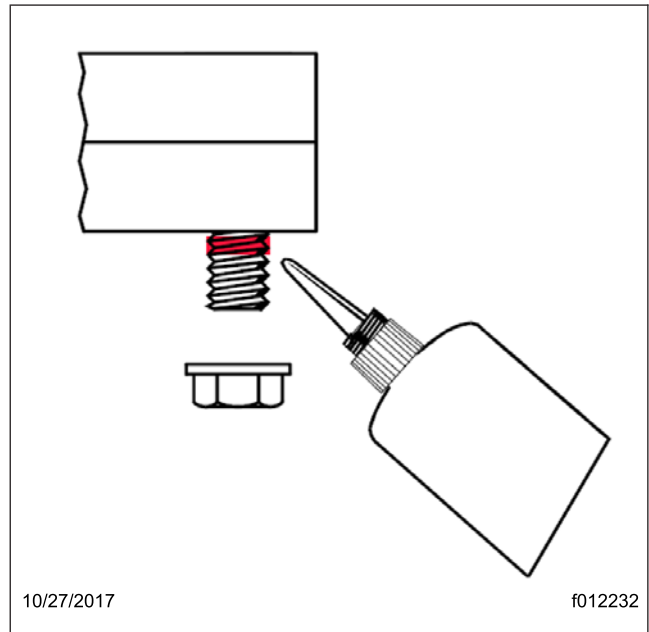

Fig. 10, Applying Thread Locker on the 1/4-20 Studs
71. Apply several drops of medium strength thread locker (Loctite Blue 242, or equivalent) onto the two 1/4-20 studs. See Fig. 10.